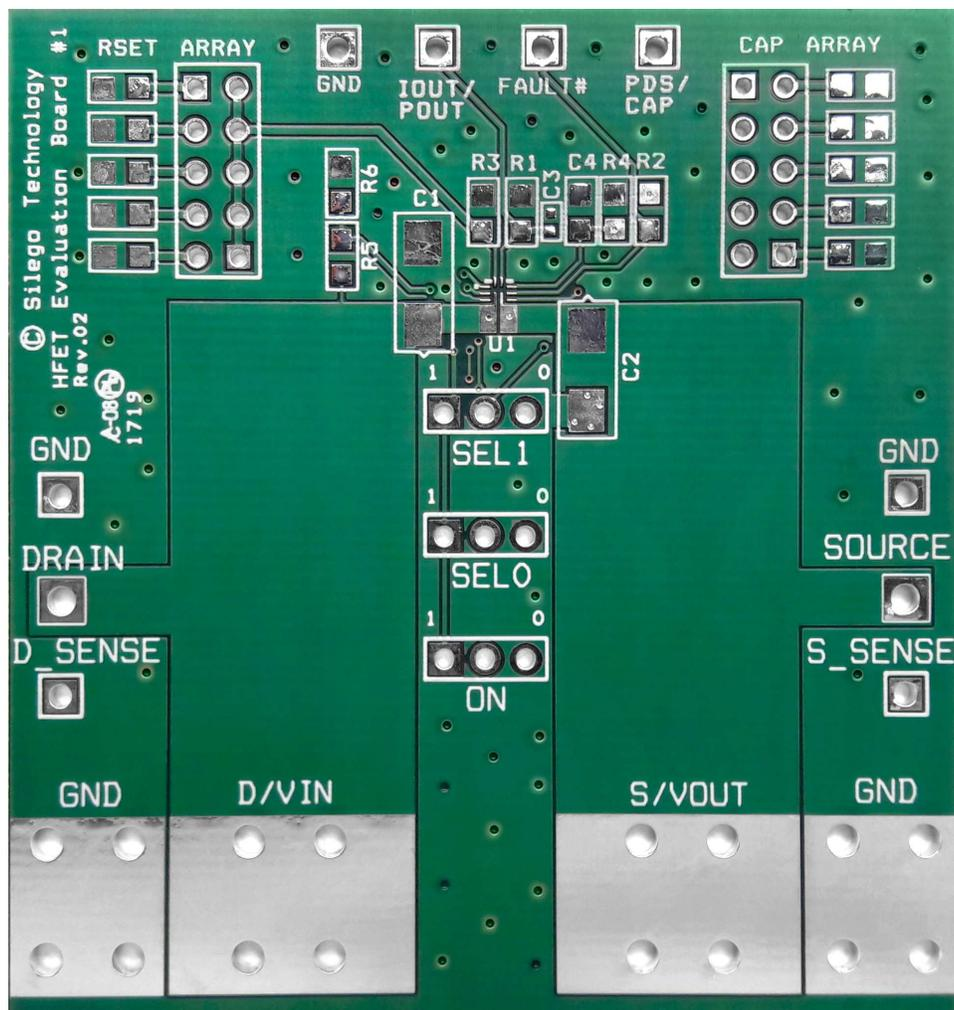

Figure 10. SLG59H1126V Evaluation Board
1. Since the VIN and VOUT pins dissipate most of the heat generated during high-load current operation, it is highly recommended to make power traces as short, direct, and wide as possible. A good practice is to make power traces with absolute minimum widths of 15 mils (0.381 mm) per Ampere. A representative layout, shown in Figure 10, illustrates proper techniques for heat to transfer as efficiently as possible out of the device;
A High Voltage FET Evaluation Board for SLG59H1126V is designed according to the statements above and is illustrated on Figure 10. Please note that evaluation board has D\_Sense and S\_Sense pads. They cannot carry high currents and dedicated only for  $RDS_{ON}$  evaluation.